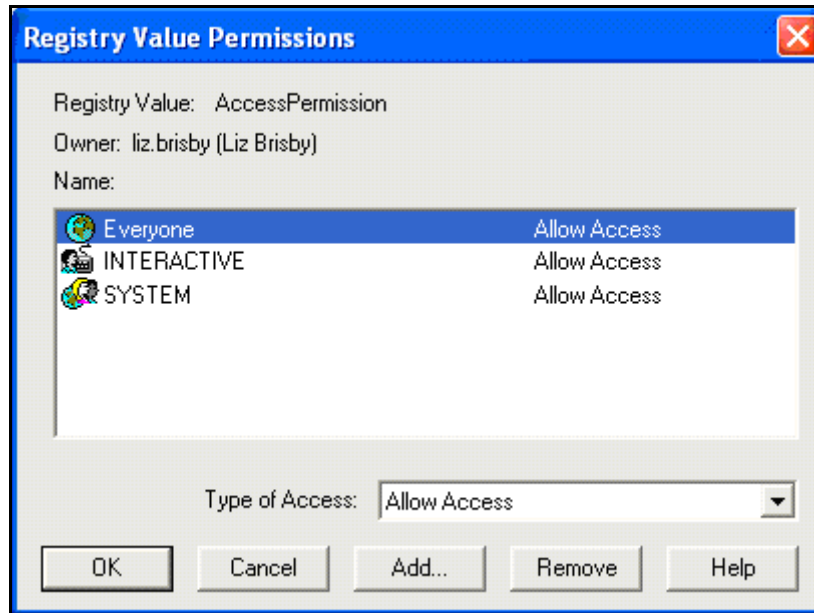

Figure 49 - Registry Value Permissions Window
5. Click **Use custom access permissions** and then click **Edit** to set the Access permissions. The **Registry Value Permissions** window (Figure 49) appears.